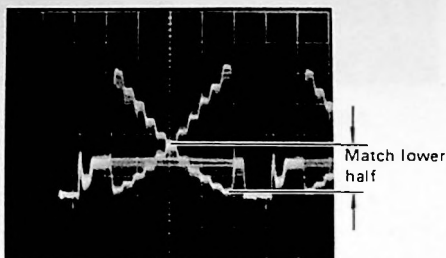

Fig. 4-4-37
- Adjust B. TRACKING-1 VR206 so that the B signal matches the Y_L signal in the lower half of the gray scale waveform. (Fig. 4-4-37)